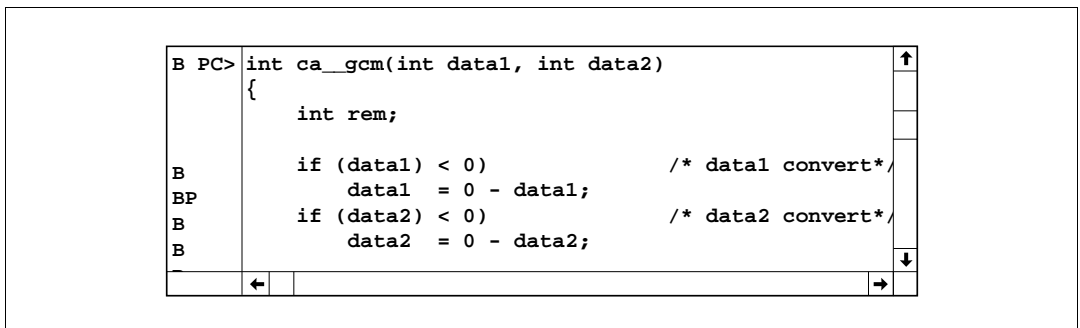

Figure 3-4 Source Area
The source area displays a section of the source file corresponding to the current program counter (PC). Figure 3-4 shows the source area display.